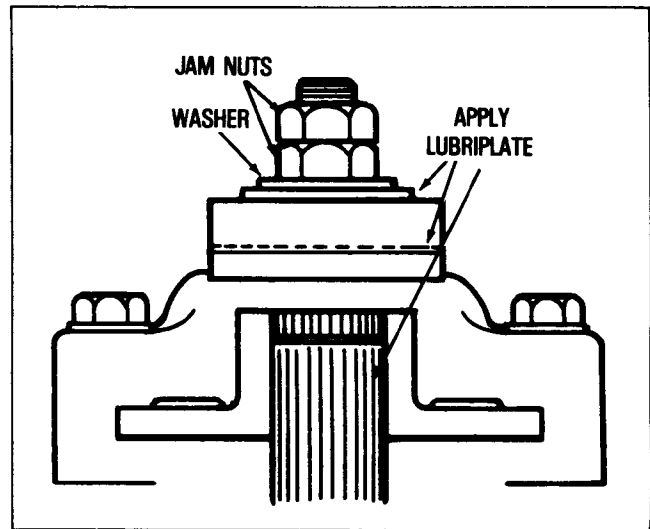

FIGURE 19
11. Prior to installing the brake assembly, apply a film of lubriplate to the inside of lever portion which contacts pins (Figure 19), also to outside of lever which contacts flat washer and between shaft O.D. and bore of brake disc. Brake pads and brake disc must be free of grease and oil.